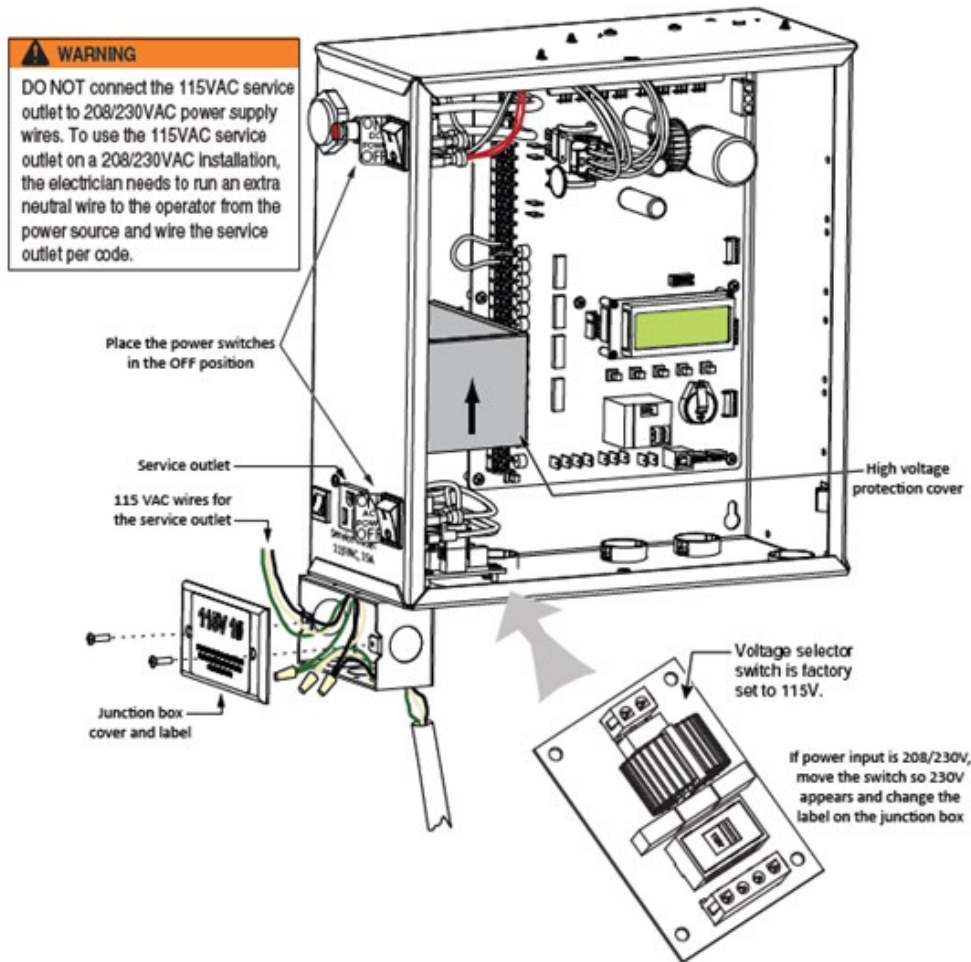

Figure 16. Wiring AC Power
Turn off AC power at the source (circuit breaker panel) before accessing the wires in the Kinetic junction box. Follow facility Lock Out/Tag Out procedures. Make sure both the DC and AC power switches, on the side of the Kinetic control box, are in the off position. See Figure 16.
Wiring of gate operators must conform to the NEC standards and comply with all local codes. If you plan to connect to 230VAC power, read the WARNING in Figure 16. The voltage selector switch on the AC Power board must be moved to the 230V position or damage to the operator will occur and void the Limited Warranty.
2. **Access the input power wires and service outlet wires by removing the two Phillips-head screws that secure the high voltage junction box cover. See “Figure 16. Wiring AC Power” on page 70.**
3. **Wire nut or crimp bond the power supply wires to the black and white lead wires coming from the AC power switch (no label). See Figure 16.**
2. **Remove the High Voltage Protection cover by unscrewing the two Phillips-head screws that secure it. See “Figure 16. Wiring AC Power” on page 70.**
4. **Access the input power wires by removing the two Phillips-head screws that secure the Junction Box Cover. See “Figure 16. Wiring AC Power” on page 70.**